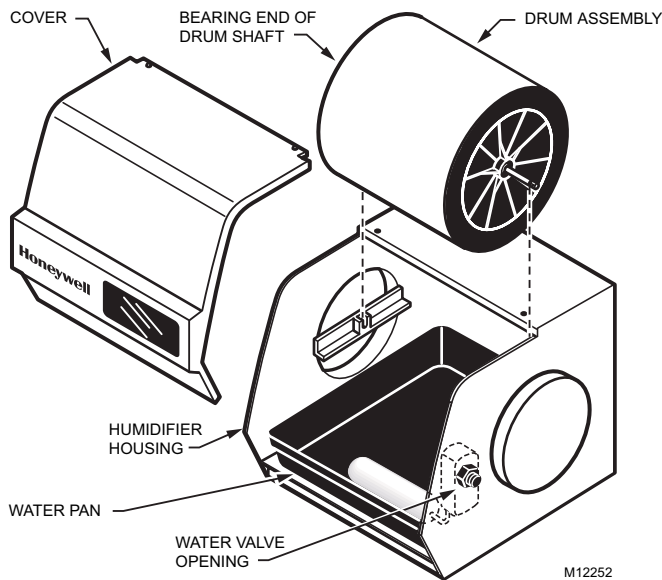

Fig. 2. Humidifier components.
4. Position the humidifier housing (see Fig. 2) over the hole (be sure it is level) and mark the five mounting holes.